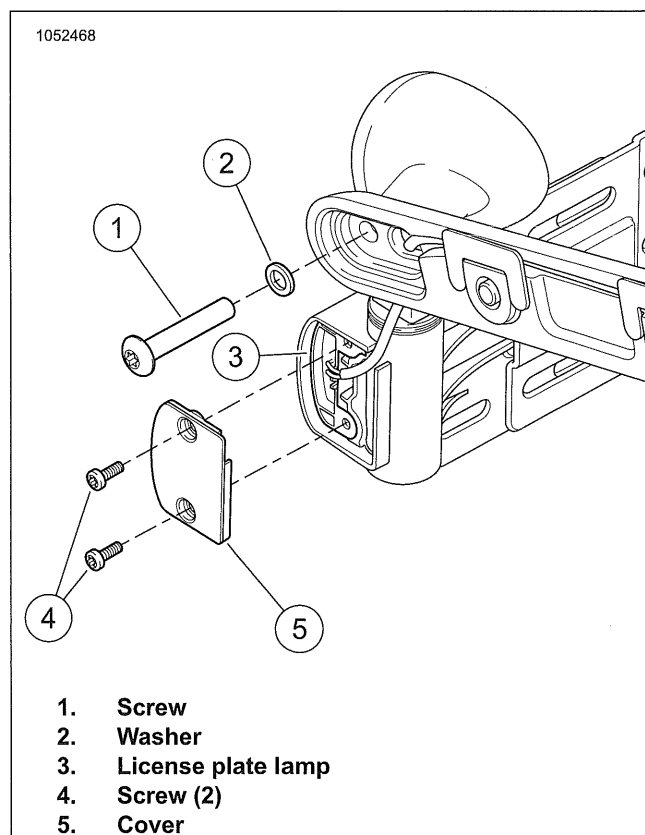

Figure 7-110. Turn Signal Assembly
5. See Figure 7-110. Disassemble turn signal.
- a. Remove screw (1) and washer (2).
- c. Remove screws (4) and cover (5).
- d. Remove lamp (3) with harness.
1. See Figure 7-110. Assemble turn signal.
- a. Install lamp (3).
- b. Install cover (5) and screws (4). Tighten.